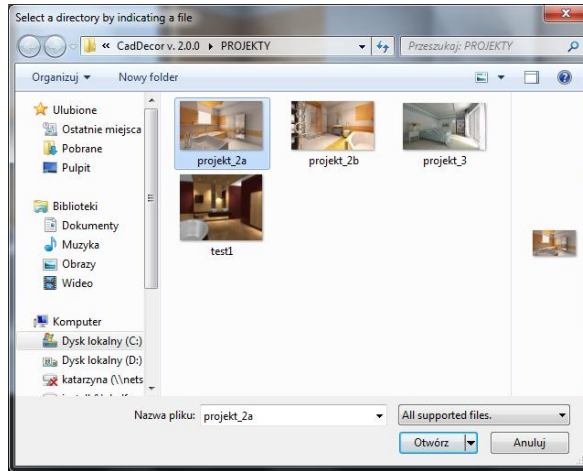

Fig. 310 – opening a new directory in the Gallery
- to add a new directory with pictures to the list in the **Gallery**, click the button **Add a directory to the gallery** and then indicate the location of the directory with images on the disk (Fig. 310);
- to add a directory click on a name of one of the files in it and then the **Open** button (Fig. 310);